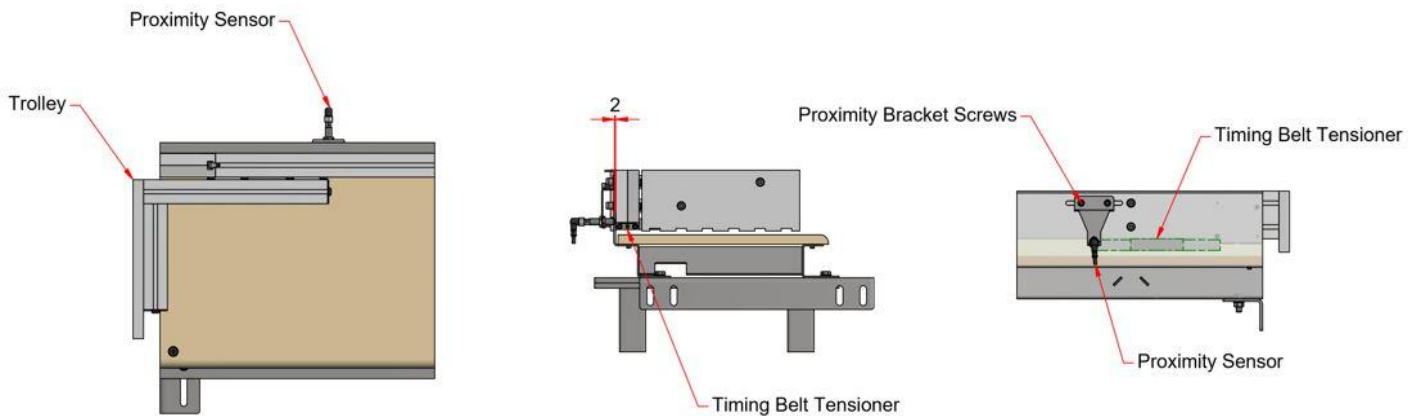

Figure 23, Rapid Stop proximity sensor configuration
- Position the proximity sensor to the rear of the timing belt tensioner as shown in Figure 23.